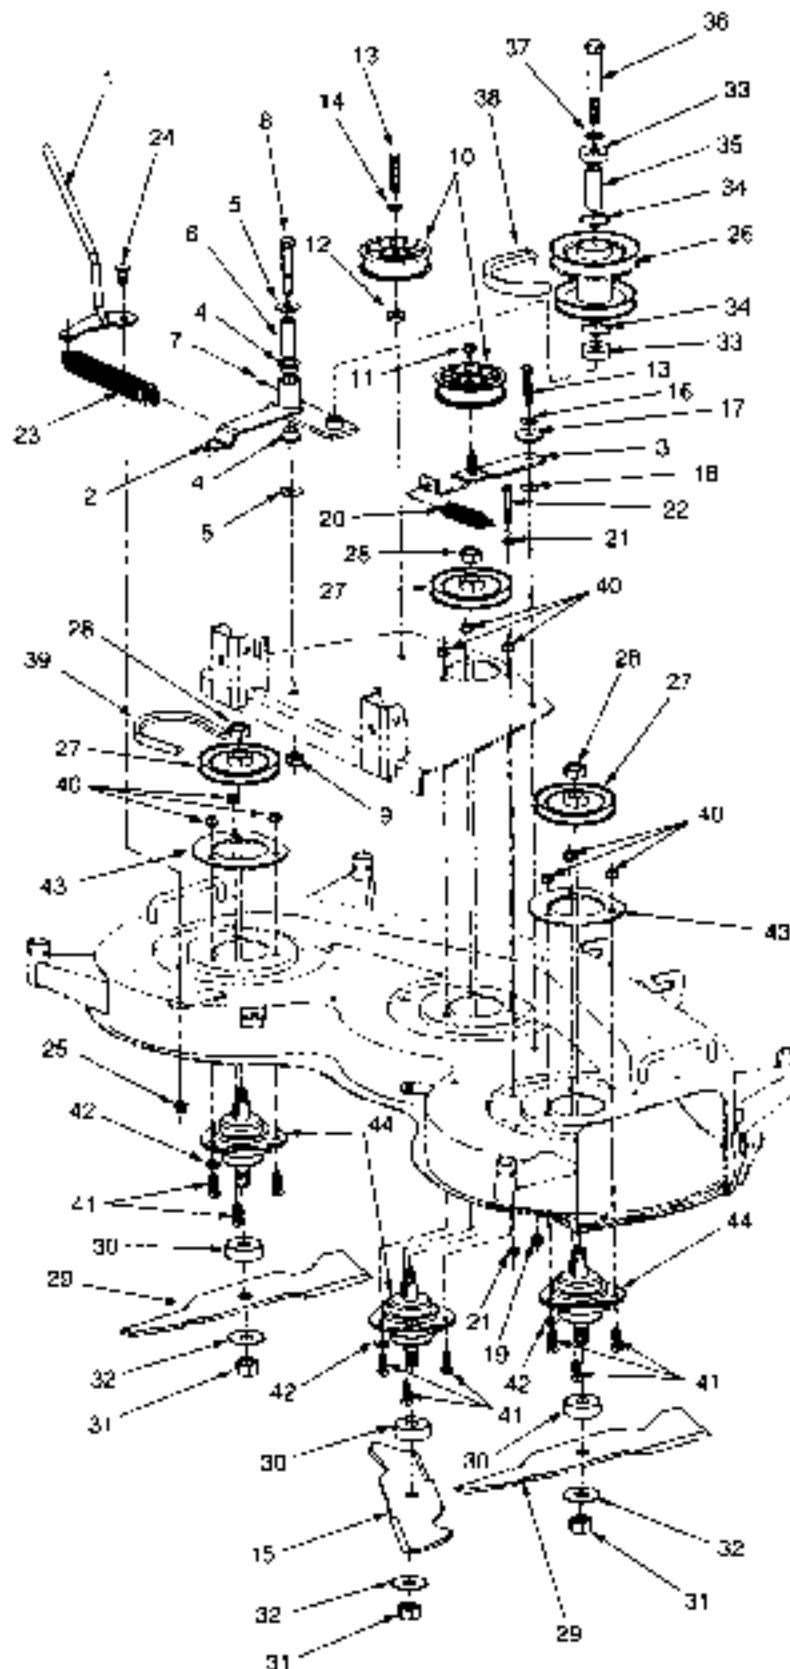

Figure 5-52. Deck Drive Components (Model 190 - 300 Mower Deck).
Use care when handling the mower blades (15 and 29, Fig. 5-52). Sharp edges of the blades could cause cuts to the skin.
When the hex nut (31, Fig. 5-52) is removed, the spindle shaft, with V-pulley (27), is free to fall from the spindle assembly (44) when the deck is tipped or inverted to remove the blades. Use care to prevent these parts from falling, which could cause damage or injury.
To prevent the spindle shaft from turning when removing the hex nut (31, Fig. 5-52) and/or hex jam nut (28), use a 1-1/4 inch wrench to hold the hex shaped hub of the V-pulley (27).
18. Remove the center cutting blade (15, Fig. 5-52) and spacer (30) from the spindle assembly (44) by removing the hex nut (31) and flat washer (32).
If the woodruff key is removed from the spindle shaft when removing the V-pulley (27, Fig. 5-52), the shaft will be free to fall from the spindle housing and may cause damage or injury.
19. Remove the hex jam nut (28, Fig. 5-52) from the center spindle assembly (44) and pull the V-pulley (27) from the spindle shaft and woodruff key.
20. Remove the center spindle assembly (44, Fig. 5-52) from the mounting plate (2, Fig. 5-51) and deck housing (1) by removing the hex flanged lock nuts (40, Fig. 5-52), hex cap screws (41), and flat washers (42).
22. Carefully remove the outer cutting blades (29, Fig. 5-52) and spacers (30) by removing the hex nuts (31) and flat washers (32).
23. Remove the hex jam nuts (28, Fig. 5-52) from the outer spindle assemblies (44) and pull the V-pulleys (27) from the spindle shafts and keys.
24. Remove the outer spindle assemblies (44) and spindle mounting plates (43) from the deck housing by removing the hex flanged lock nuts (40, Fig. 5-52), hex cap screws (41), and flat washers (42).
25. If necessary, note the hole location and remove the hex cap screw (22, Fig. 5-52) and upper hex nut (21) from the deck housing by removing the lower hex nut (21).
Disassembly, inspection, and reassembly of the spindle assemblies (44, Fig. 5-52) are covered in paragraph 5-37.
1. Remove the flat idler pulley (10, Fig. 5-52) from the idler arm (3) by removing the hex flanged lock nut (11).
2. Remove the double pulley (26, Fig. 5-52) assembly from the pulley pivot arm (2) by removing the hex cap screw (36) and flat washer (37).
3. Disassemble the double pulley (26) assembly as follows:
- a. Slide the ball bearing (33) from each end of the pulley hub and remove the pulley spacer (35)
- b. Remove the internal snap rings (34) from inside the pulley hub.
4. Disassemble the double pulley pivot arm (2) assembly as follows:
- a. Slide the idler brkt. spacer (6) from the hub of the pivot arm.
- b. If necessary, press the flange bearings (4) from each end of the pivot arm hub. Discard and replace the bearings if removed.
- c. Remove the lube fitting (7), only if necessary, by pulling from the pivot arm hub. The lube fitting must be replaced if removed.
7. Inspect the shoulder spacer (17, Fig. 5-52) and idler arm (3) for wear to mating surfaces.
- a. Screw the hex jam nuts (43) onto the front lift rod (6) to the positions marked when disassembling
- b. Install the shoulder bolts (44) in the front lift bracket (7) with the hex flanged lock nuts (45).
- d. Secure with the hex nylon top lock nuts (46). Do not tighten the top lock nuts (46) until making the final adjustment when installing and leveling the deck on the tractor.
3. Reassemble the double pulley pivot arm (2, Fig. 5-52) assembly as follows:
- a. If previously removed, use a protective sleeve and drive the new lube fitting (7) into the pivot arm hub.
- b. Press a new flange bearing (4) into each end of the pivot arm hub.
- c. Apply a thin coating of Cub Cadet 251H EP grease to the I.D. and O.D. of the idler brkt. spacer (6), then slide the spacer into the flange bearings.
4. Reassemble the double pulley (26, Fig. 5-52) assembly as follows: